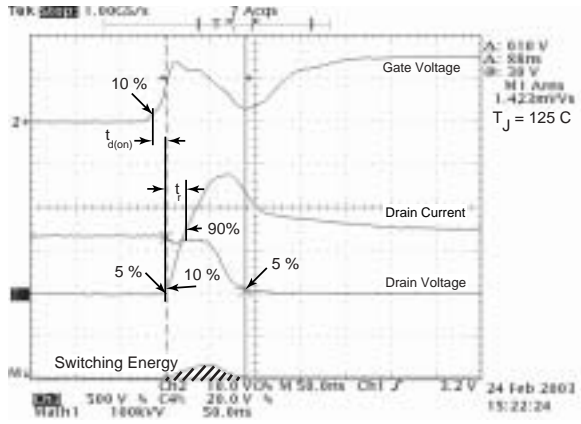

Figure 18, Turn-on Switching Waveforms and Definitions
① Repetitive Rating: Pulse width limited by maximum junction temperature
② Pulse Test: Pulse width < 380 μs , Duty Cycle < 2%
③ See MIL-STD-750 Method 3471
④ Starting $T_j = +25^\circ C$, $L = 9.60mH$, $R_G = 25\Omega$, Peak $I_L = 25A$
⑤ dv/dt numbers reflect the limitations of the test circuit rather than the device itself. $I_S \leq -I_{D24A}$ $di/dt \leq 700A/\mu s$ $V_R \leq V_{DSS}$ $T_j \leq 150^\circ C$
⑥ E_{on} includes diode reverse recovery. See figures 18, 20.